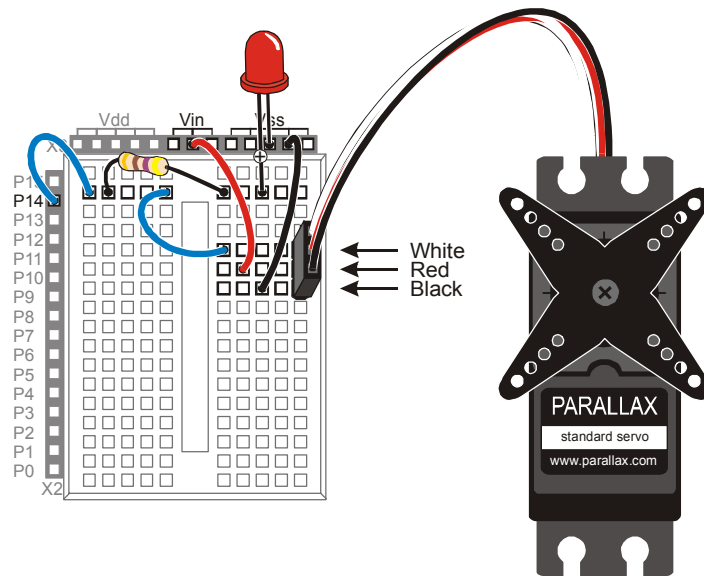

Figure 4-11
- ✓ Connect the servo to the servo header as shown in Figure 4-11.